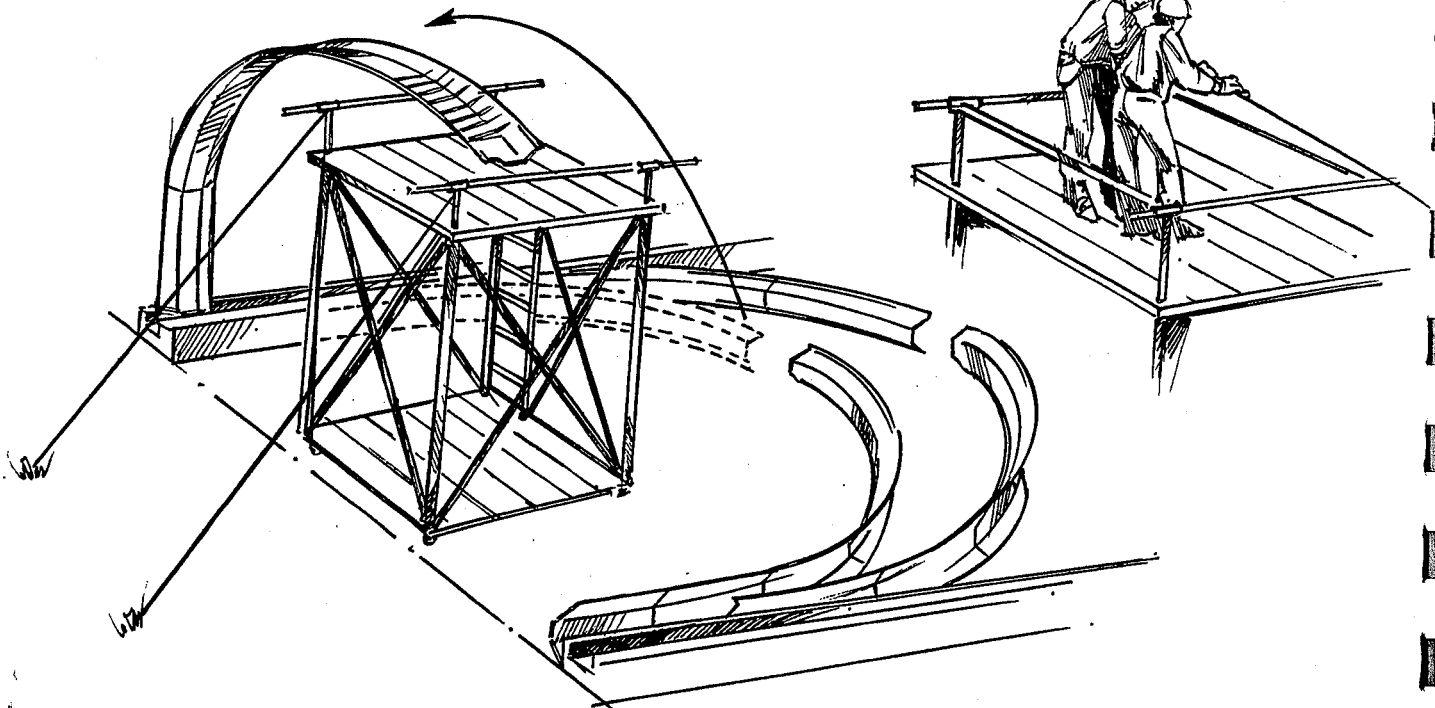

Fig. 19A
5. Support the top end on the scaffold as shown in fig.19A, and secure it temporarily by means of ropes or otherwise.